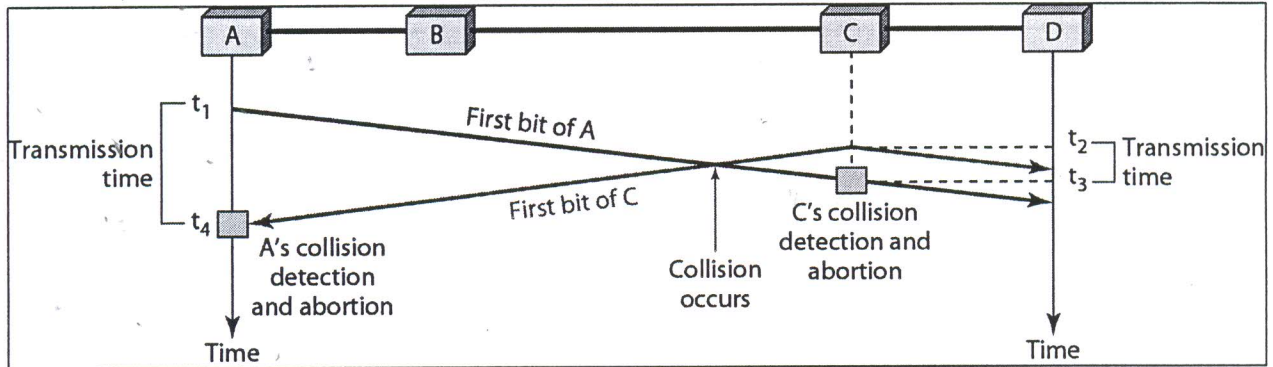

Figure 4 : Collision of the first bit in CSMA/CD
b) In **Figure 4**, the data rate is 10 Mbps, the distance between station A and C is 2000m, and the propagation speed is 2×10^8 m/s. Station A starts sending a long frame at time $t_1 = 0$; station C starts sending a long frame at time $t_2 = 3 \mu\text{s}$. The size of the frame is long enough to guarantee the detection of collision by both stations. Find: